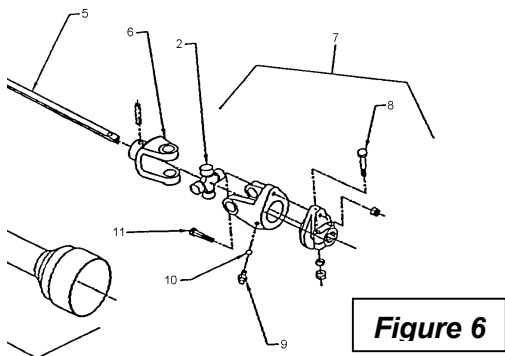

Figure 6
1. Replace the driveline shear bolt (fig. 6, item 11) with a 7/16" dia., grade 2 (6.6) bolt available locally.